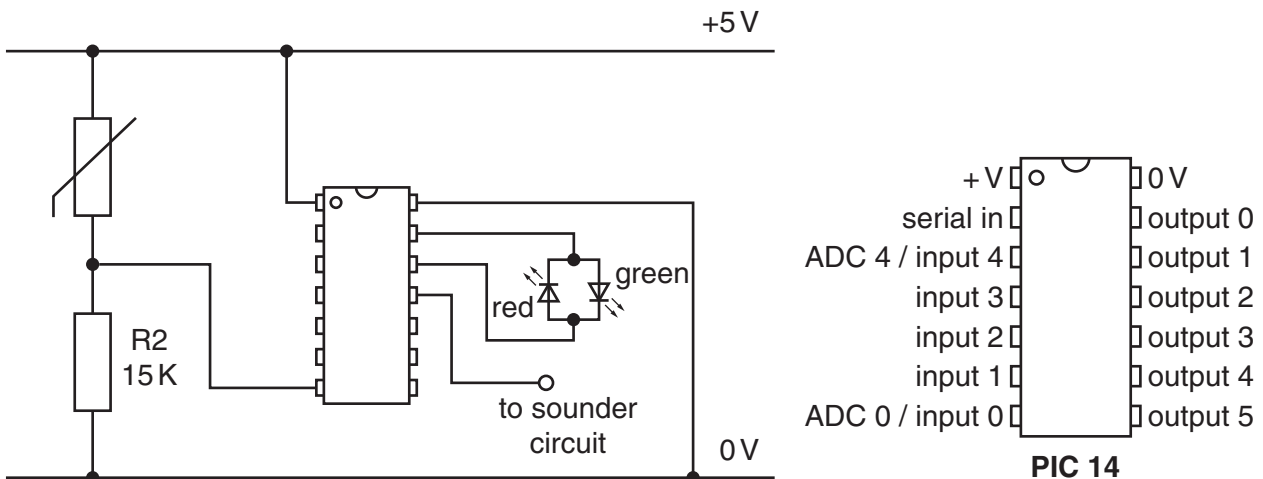

Fig. 15
- (b) The circuit uses a 14 pin PIC IC to convert the temperature signal from an analogue value to a digital value as shown in Fig. 15.
(i) Use information from Fig. 15 to complete the table below showing the logic level of the outputs that will light each colour of the bicolour LED.